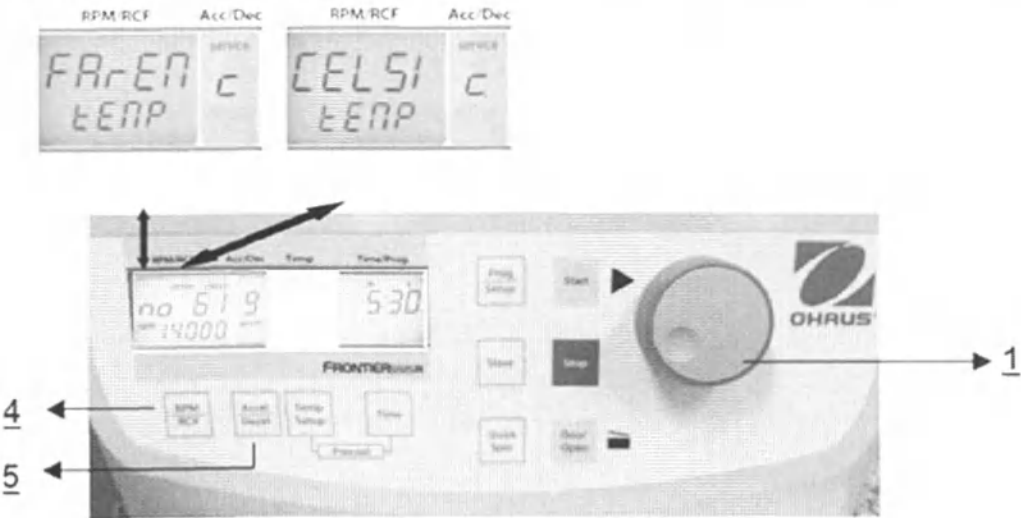

Fig. 32
Turn on the parameter setting mode, as described in Section 4.1.2, then press the key **Accel/Decel** (5). The word **Service** will appear in the field **Acc/Dec** (A-2). Turning the dial (1), select the symbol C. The text **CELSI/temp** will appear in the field **RPM | RCF** (A-1) in this case. If pressing the key **RPM | RCF** (4), the word **CELSI** starts blinking, and turning the dial (1), the Fahrenheit scale **FAREN** (see Fig. 32) can be switched on.